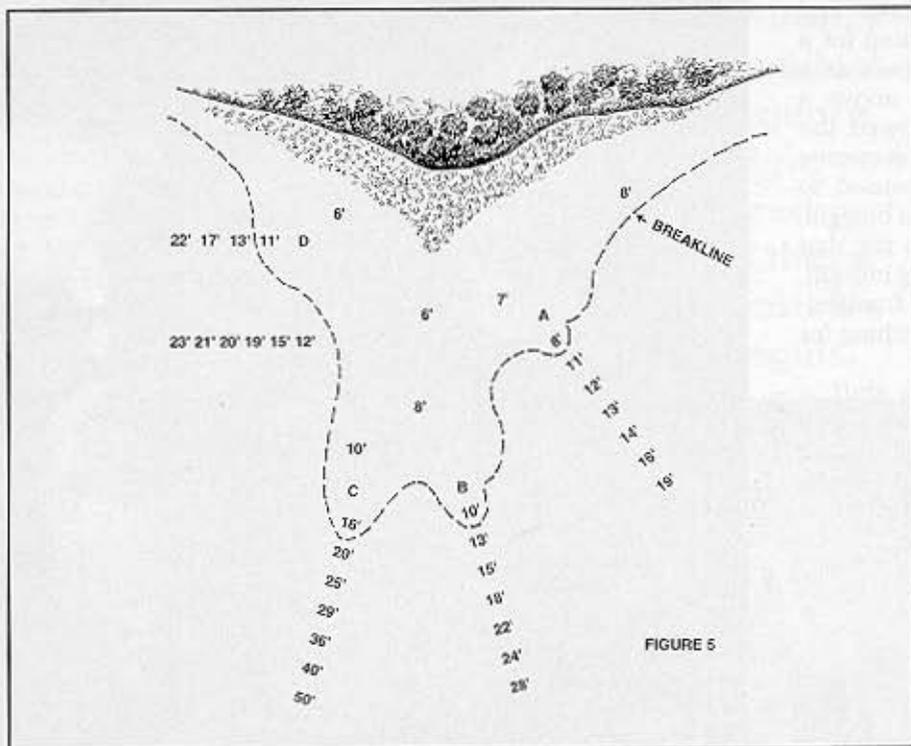

FIGURE 5
Figure 5 is a top view of a wide sweeping bar ("structure situation") with a "breakline" (an area on the bottom where there is a sudden or more rapid increase or decrease in depth). The breakline is rather crooked and has several extrusions or "fingers". The "fingers" have been
In figure 5, finger "A" has a three (3) foot break (8 to 11 ft.). The depth figures show the bottom is rather shallow and flat off this finger (depth incenses slowly).